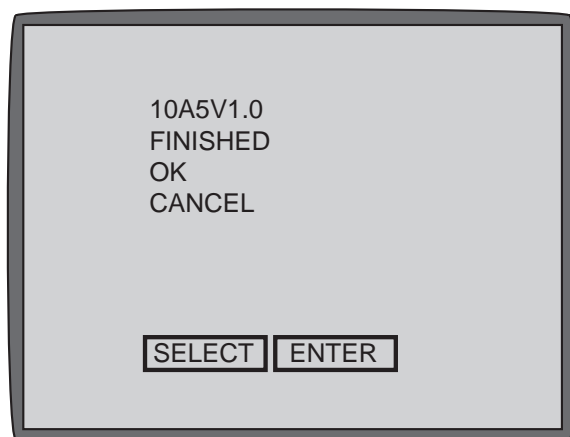

**Figure 6-19 OSD Softmenu 1**
- 14.) The first screen is shown on the display. Touch **SELECT** three times to select **EXIT**. Refer to Figure 6-19.